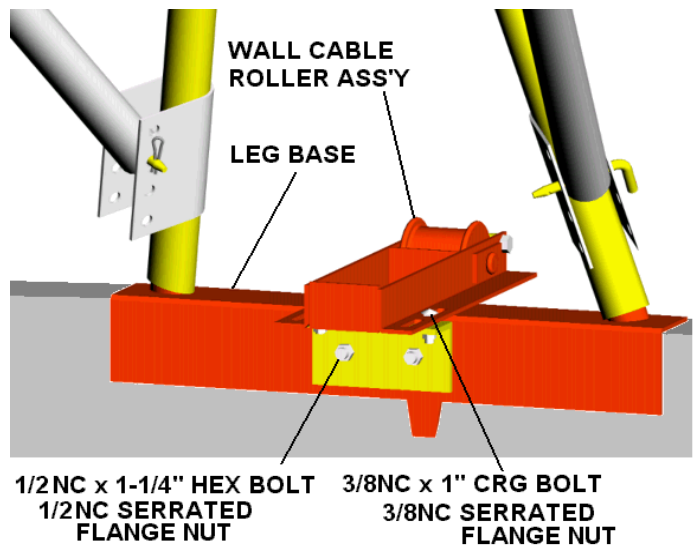

FIGURE 1
1. Bolt the angle bracket to the base of a hexapod leg with (2) 1/2" x 1-1/4" hex bolts and whiz nuts. See figure 1.